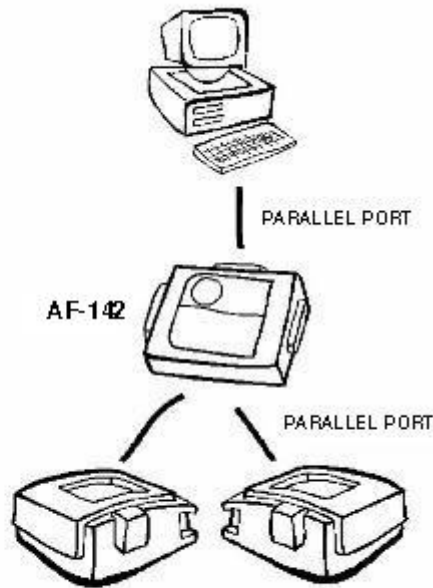

fig. 2 1-to-2 mode
3. Connect the ParaHub to parallel devices by cables with one DB-25 male connector and one appropriate connector for the parallel device, as shown in fig. 2.